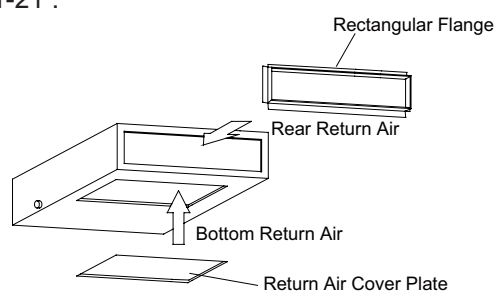

Figure 3-1-21
(2). The default installation location of the rectangular flange is at the back and the return air cover plate is at the bottom, as shown in Figure 3-1-21 .